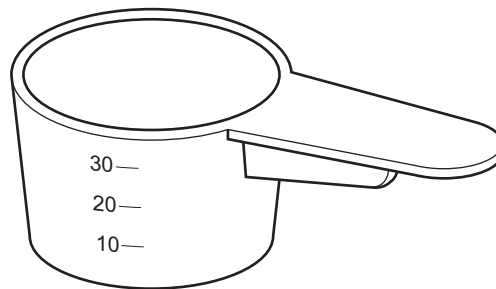

Fig. 1
- 3 Fig. 1 shows a small plastic measuring scoop used in cooking.